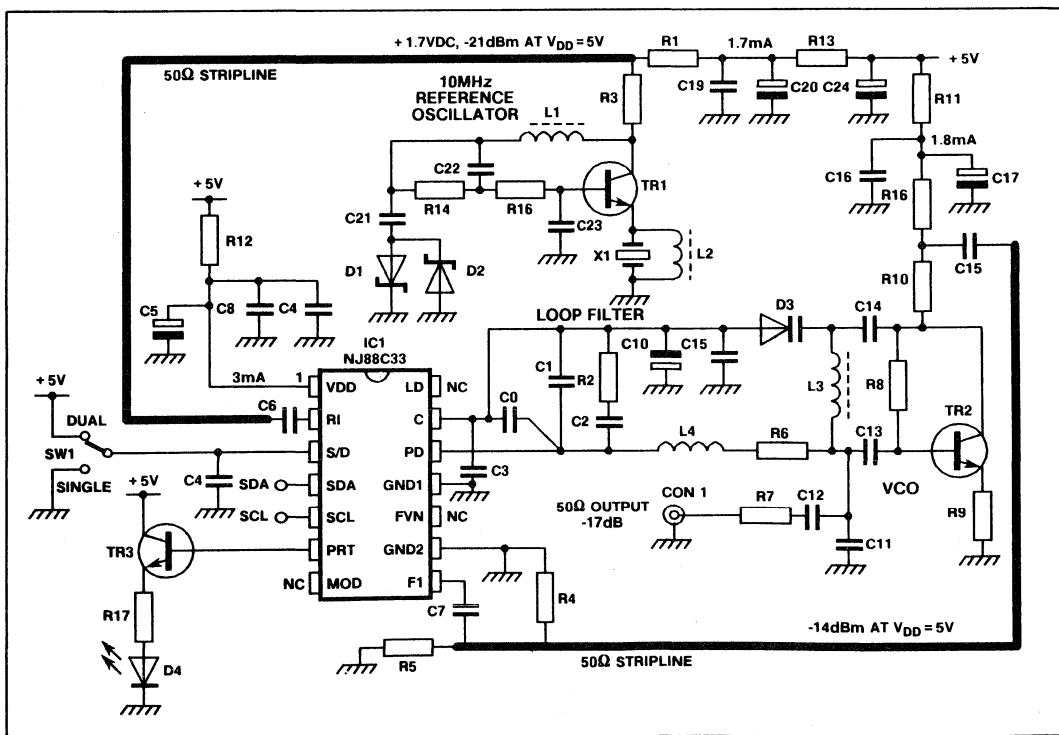

Fig.11 Typical applications circuit
The NJ88C33 evaluation board (Fig. 11) demonstrates the preferred layout technique - providing a reference oscillator, a 60 to 120MHz VCO and a simple loop filter to complete a minimal frequency synthesiser loop. The two units allow analysis of different loop variables as well as the selection of comparison frequencies for fast frequency-hopping loops.
**COMPONENT LIST FOR FIG.11**